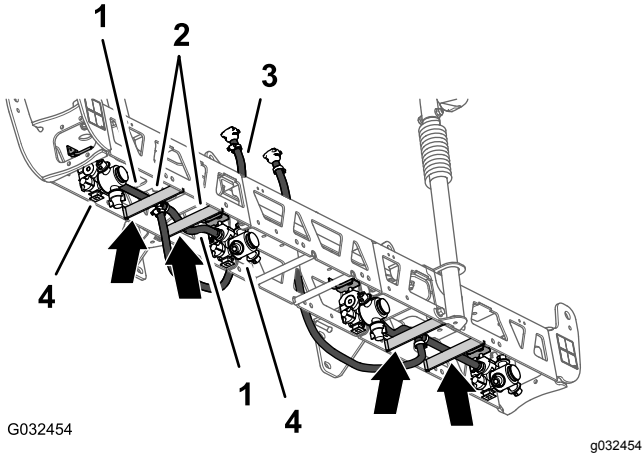
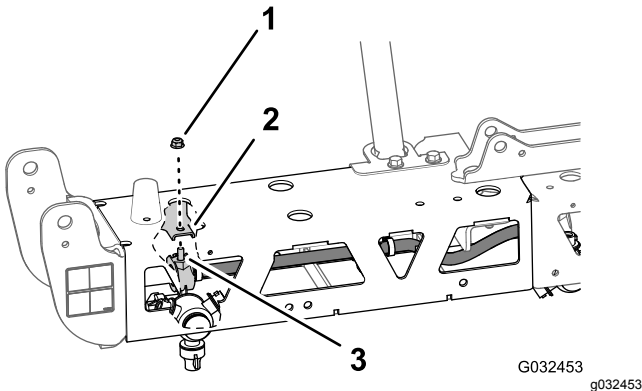

Figure 59
Figure 60
1. Route the hose 13 mm (10 inches) and nozzle assembly between the truss braces of the outer truss (Figure 59).
2. Route the hose and nozzle above the truss brace and outward to the outboard nozzle mount (Figure 59).
3. Align the hex-head bolt (5/16 x 3/4 inch) of the sprayer nozzle through the hole in the nozzle mount and loosely secure the nozzle to the mount with a flange locknut (5/16 inch) from the GeoLink spray system finishing kit (Figure 60).
4. Route the other hose 13 mm (10 inches) and nozzle assembly between the s truss braces of the outer truss (Figure 59).
5. Route the hose and nozzle above the truss brace and inward to the inboard nozzle mount (Figure 59).
6. Align the hex-head bolt (5/16 x 3/4 inch) of the sprayer nozzle through the hole in the nozzle mount (Figure 60) and loosely secure the nozzle to the mount with a flange locknut (5/16 inch) that you removed in steps 1 and 4 of Removing the Sprayer Nozzles (page 26).
8. Route the hose and barbed coupler 13 x 810 mm (1/2 x 32 inches) to the side of the center-spray section with the left and right support brackets (Figure 59).
9. Repeat steps 1 through 8 for the other hose and nozzle assembly at the other outer truss (Figure 59 and Figure 60).